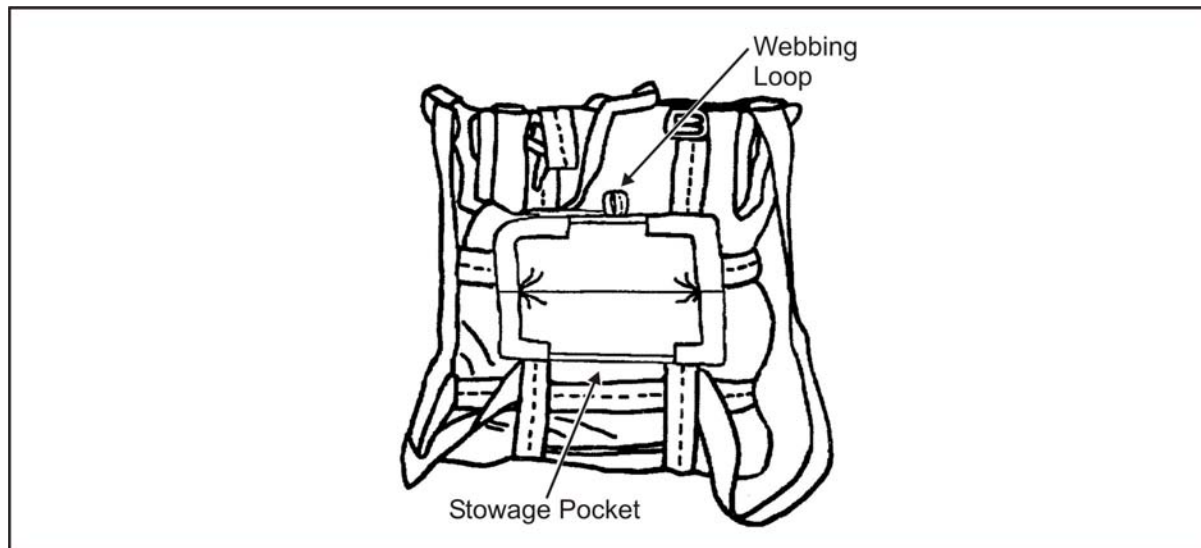

Figure 5-26. Stowage Pocket With 8-Foot Lowering Line
- Attaches the lowering line through the sewn webbing loop on the backside of the SARPELS carrier at the top of the stowage pocket (Figure 5-26, page 5-24).